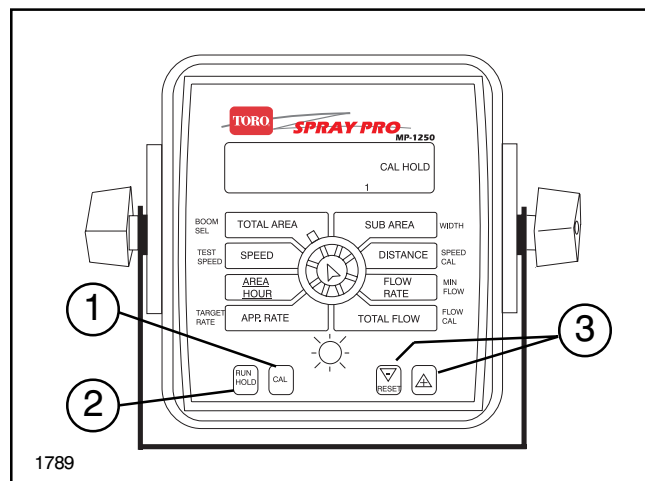

FIG. 2
To activate the Metric mode, turn ignition switch *OFF* and place the rotary dial at SUB AREA. Hold down both the  and  buttons and turn power *ON* (See FIG. 2). The monitor will display Metric measurements. Once powered up, release the two buttons. To 'lock-in' Metric mode you must enter calibration. Press and hold the  button until "CAL" appears on the display. The monitor is now in calibration and Metric mode is locked-in. Exit CAL by pressing and holding the  button until "CAL" disappears from the display (approximately 3 seconds).
2. Press and hold the  button for three seconds to select the calibration mode. The monitor display will read "CAL" (See FIG. 2, page 64), and the red warning light will turn on.